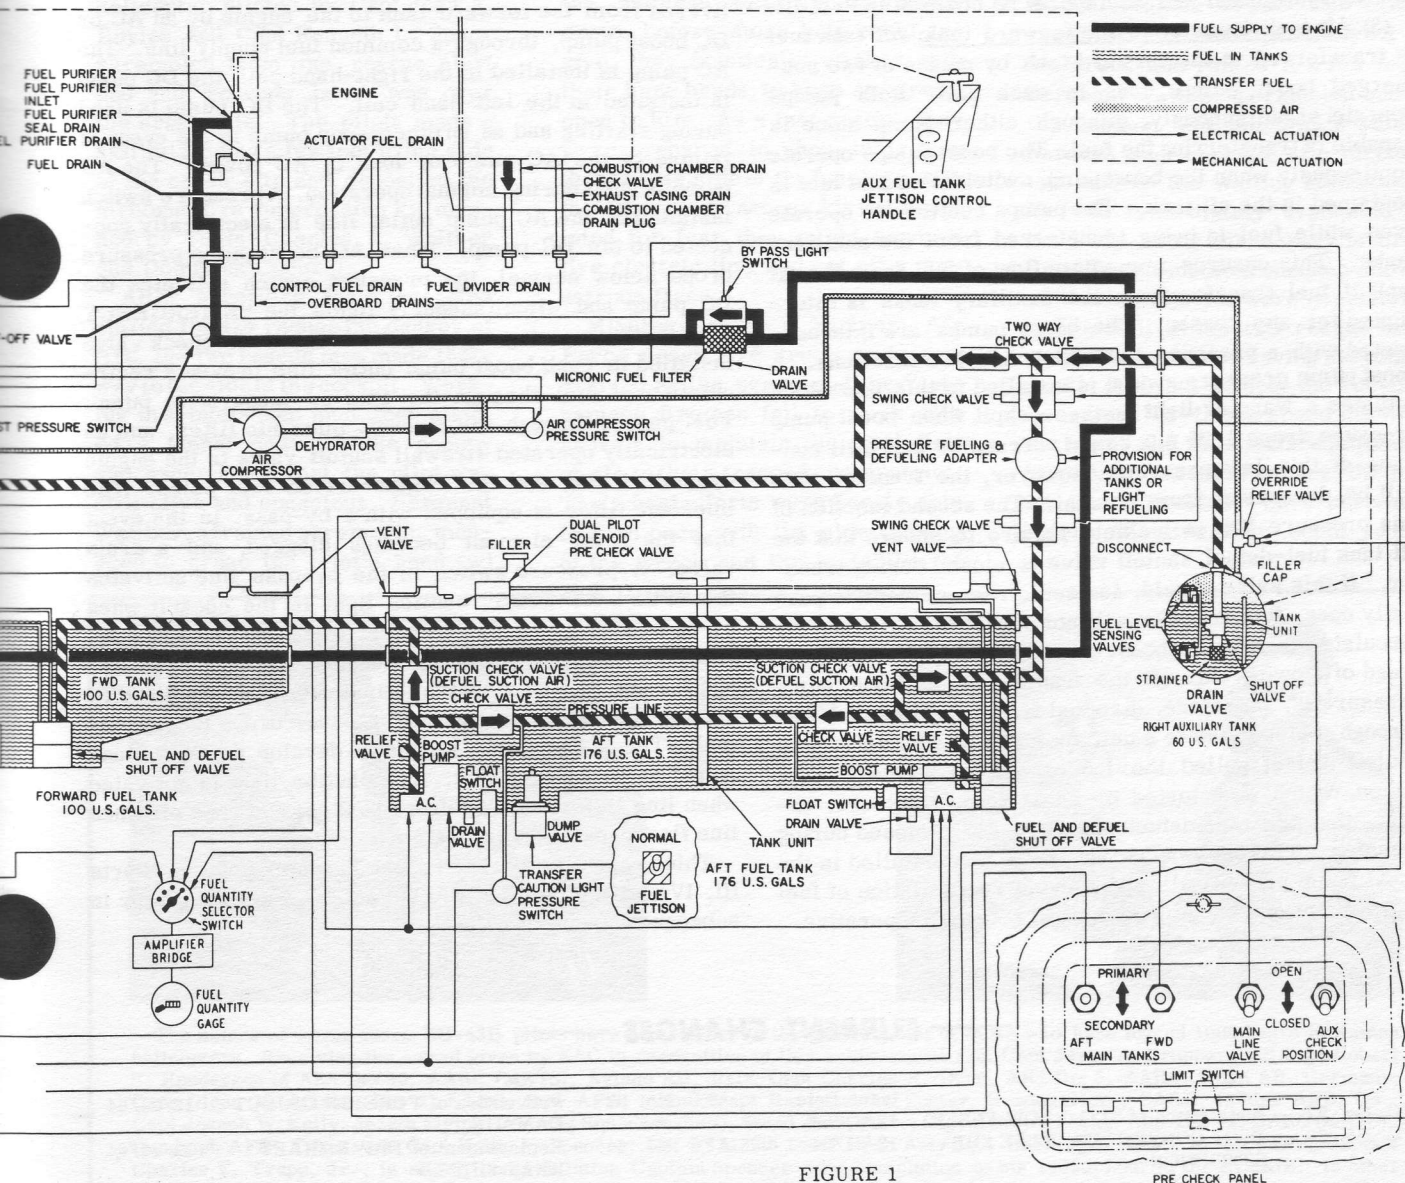

FIGURE 1
(1) General: Auxiliary tank fuel and aft tank fuel is transferred to the forward tank as the fuel in the forward tank is consumed. Fuel from all tanks is fed to the engine through the forward tank. Internal plumbing and components in the transfer system are also used in single point pressure fueling and suction defueling. The function and operation of these units, as applied to pressure fueling and suction defueling, will be dealt with in Part III.
(2) Auxiliary tank transfer to the forward tank: (See figure 1) Fuel is transferred from the auxiliary tanks first. When the auxiliary tanks are empty, or when auxiliary tank transfer is interrupted, transfer from the aft tank commences automatically. The system maintains the proper center of gravity (CG) and ensures maximum internal fuel load in the event that it is necessary to drop the auxiliary tanks during flight.